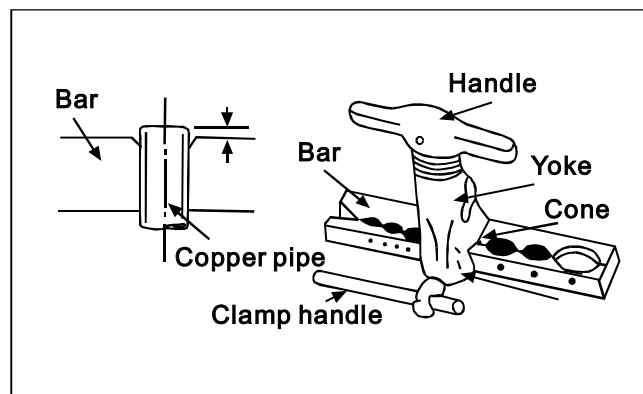

Fig.10
- Fit the copper pipe end into the bar of flare tool about 0.5-1.5mm higher.(See Fig.10)